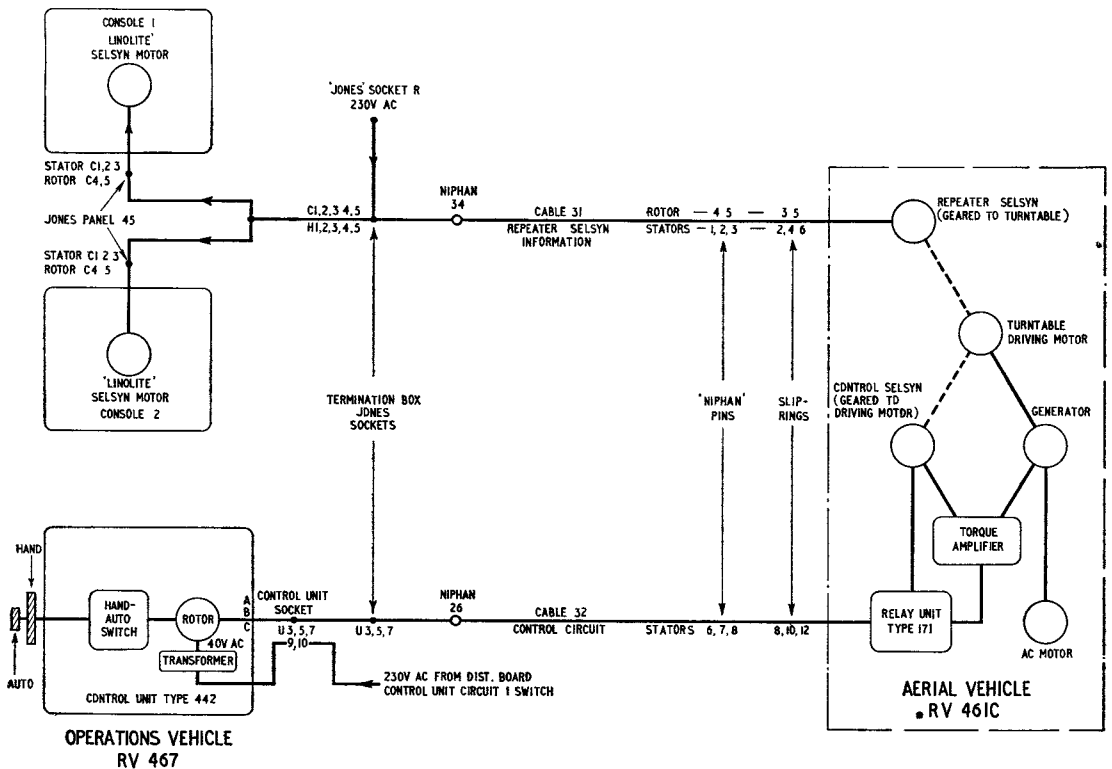

Fig. 26. Height-finder azimuth turning gear : block diagram
73. Turning gear Type 53 is similar to turning gear Type 52. The main difference lies in the method of control from the operations room. As shown in fig. 26, which is a block diagram of the system, control unit Type 442, unlike control unit Type 443, does not employ a pilot motor to turn its selsyn for continuous rotation. Instead a steady voltage is fed from the control unit